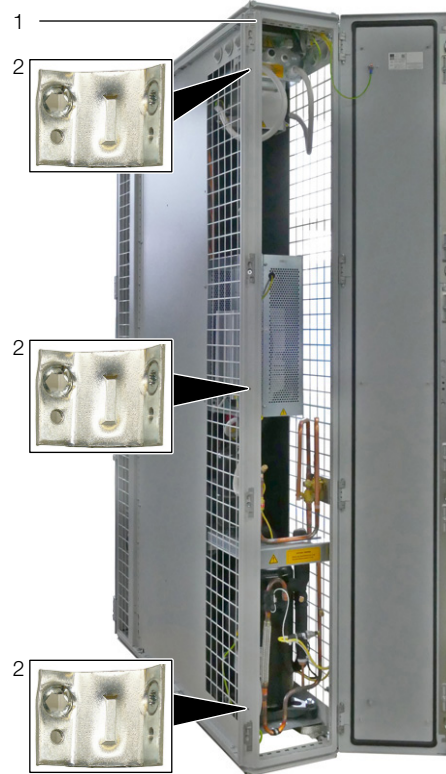

Fig. 13: Rear
- Using the corresponding assembly screws, fasten three baying connectors each (fig. 13, item 2) onto the
attachment points provided in the mounting strips on the front and rear of the LCP DX (fig.13, item 1).